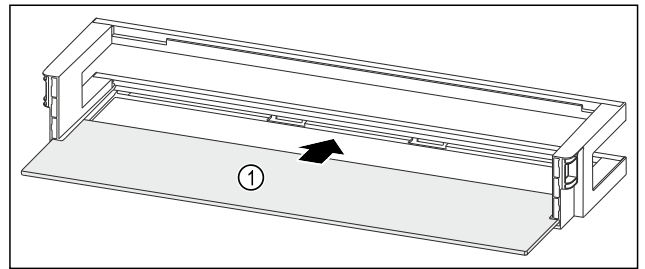

Fig. 112 Door rack with shelf
- Push the shelf Fig. 112 (1) into the side recesses.